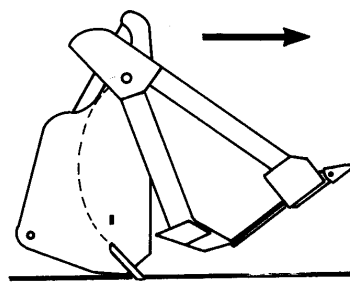

Fig. 4.43. Starting to Load
3. To use a multi-purpose bucket as a bucket, roll the bucket forward or backward and move the machine forth. The cutting edge will penetrate into the ground till the clam's cutting edge gets into full contact with the ground (Fig. 4.43).